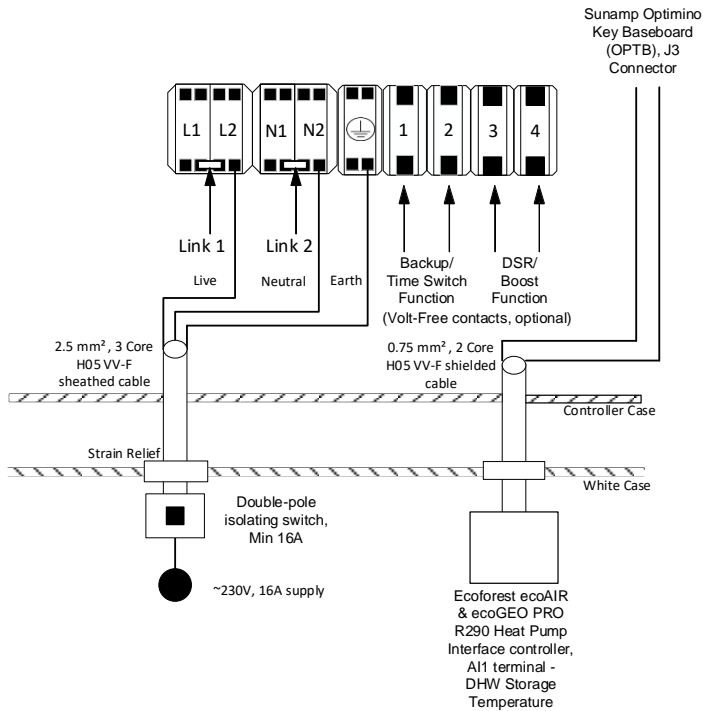

Figure ET.1 - Thermino xPlus with ET01 Optimino Key
- Thermino xPlus with the “ET01” & “ET02” Optimino Keys (D0084 – Section 6.3.2 for wiring instructions & Figure ET.1 below)
housing through the hole available. Secure the cables in terminals J3 on the Optimino Board J3; please see Figures ET.1 & ET.2 below for reference.